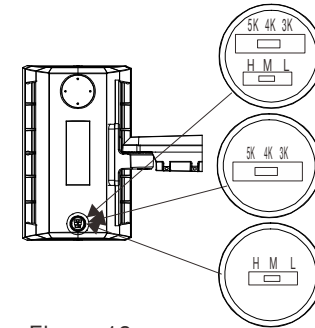

Figure 18
STEP 2: After adjusting the required control function, tighten the metal plug clockwise (FIGURE 18)